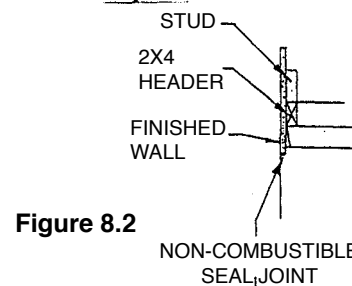

Figure 8.2
*Non-combustible material used between top of opening and mantle must not exceed 3" in depth. (Figure 8.2)
CAUTION: All joints between the finished wall and the fireplace surround (Top and Sides) can only be sealed with non-combustible material. Only non-combustible material can be applied as facing to the fireplace surround. (Figure 8.2)